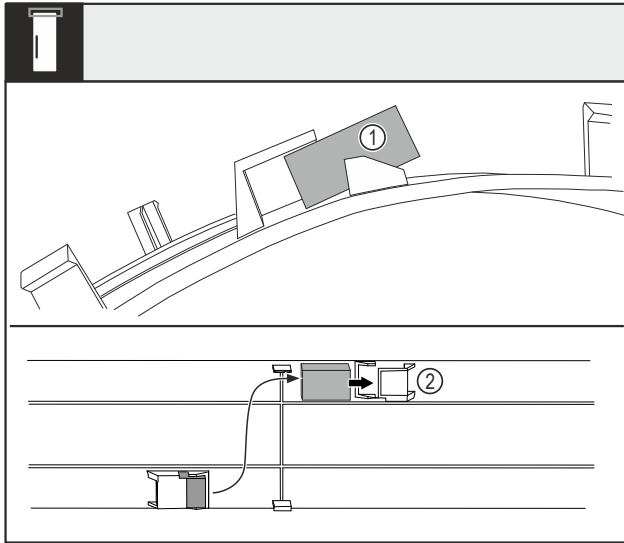

Fig. 11
- ▶ Bend the cover and pull the door magnet Fig. 11 (1) out of the harness.
- ▶ Push the door magnet into the other harness Fig. 11 (2).